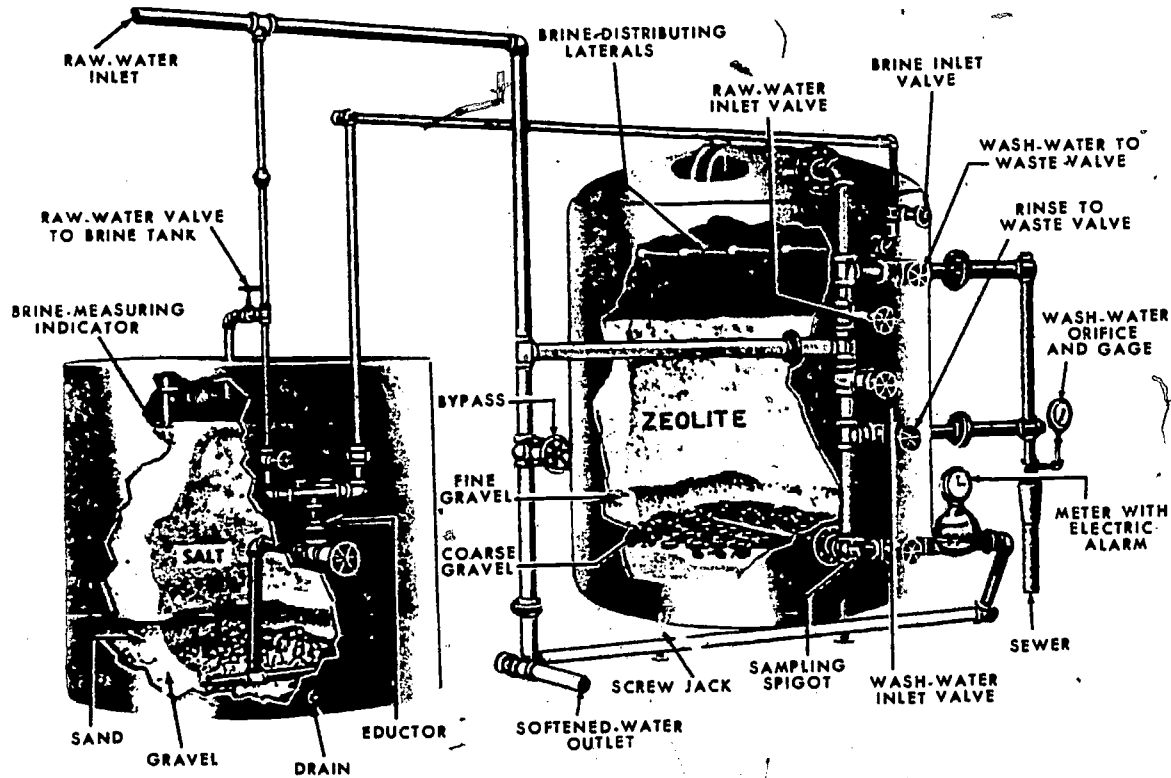

Figure 20. Sodium-zeolite softener.
3. *Sodium-zeolite.* The pressure-type sodium-zeolite softener consists of a steel shell which contains a bed of zeolite supported by several layers of graded gravel. These softeners may be operated either manually or automatically. A manually operated water softener is shown in figure 20.